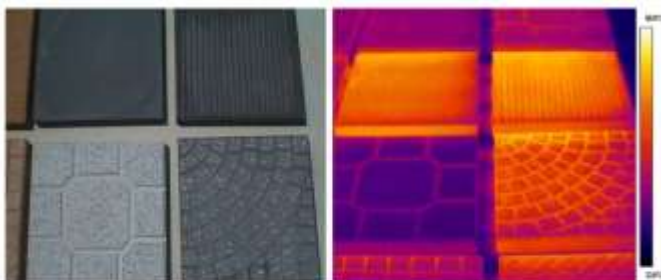

Fig. 4. Visible and infrared image of selected building materials.
The methodology used by HydroColor is similar to that used with precision radiometers (Mobley, 1999). HydroColor uses three images collected by the user to: (1) measure how much light is emanating from the waters surface, (2) correct that value for sun glint off the surface, and (3) normalize it by the total incoming radiation. This provides a nearly illumination independent measure of the amount light reflected out of the water. This measure of the waters reflectance is known as remote sensing reflectance (R_{rs}). Using the camera on a smartphone, HydroColor can calculate remote sensing reflectance in the red, green, and blue (RGB) color channels of the camera (figure 1; figure 4). The absolute or relative magnitude of remote sensing reflectance in the RGB channels can then be used to measure chlorophyll and/or turbidity of a water body.